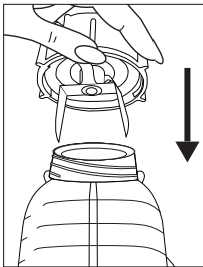

Figure 5
5. Place blade into jar. (Figure 5)